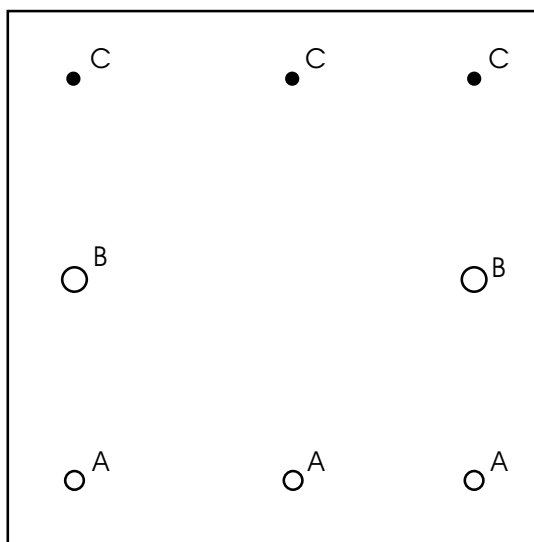

Figure 4. 01-419 Trimming Tool
- Break the outer conductor using hole "B" of the 01-419 Assembly Tool (Figure 4) and remove the outer conductor.
- Cut the center conductor to 0.030" \pm 0.005" (0.75 mm) with the flush cutting wire cutters. Hole "C" of the 01-419 Assembly Tool (Figure 4) can be used to set the length.